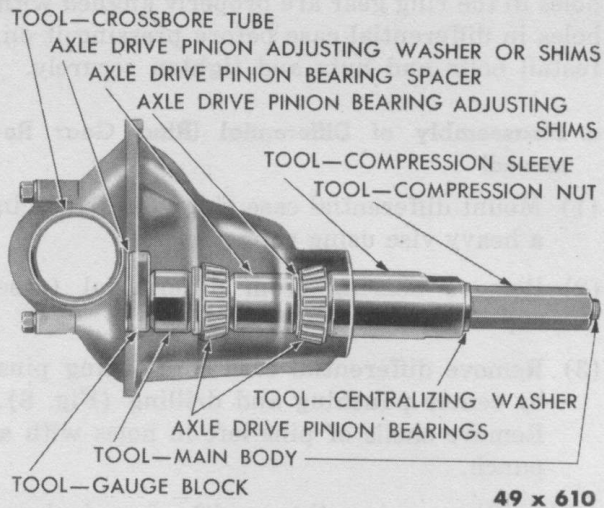

Fig. 13—Main Body, Bearings, Spacer and Shims Installed
(1) Pinion Bearing Pre-load
- (b) Slide adjusting shims and front bearing over *main body* (Fig. 13).